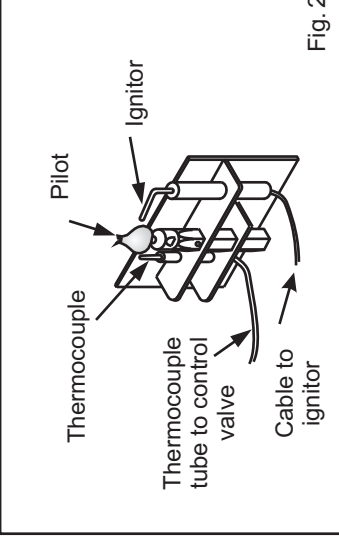

Fig. 2
- To light the appliance manually first light a match or barbecue lighter. Push the control knob in and turn it anticlockwise to the ignite position whilst holding the knob pushed in. Whilst still holding the knob in, offer the lit match or barbecue lighter up to the pilot light (see Fig. 2). This will ignite the pilot. Once the pilot is lit follow the instruction above to ignite the fireplace burner and adjust the heat setting.